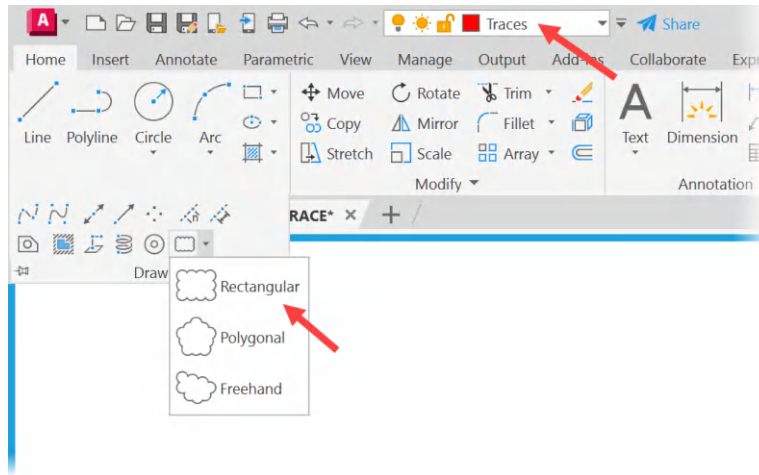

Figure 16.9: The Rectangular revision cloud option
13. Using the **Home** tab on the ribbon, go to the **Draw** panel and click on the arrow on the **Draw** panel title bar to expand the panel icons. Select the **Rectangular** revision cloud on the **REVCLOUD** drop-down menu. You can see this in *Figure 16.9*.